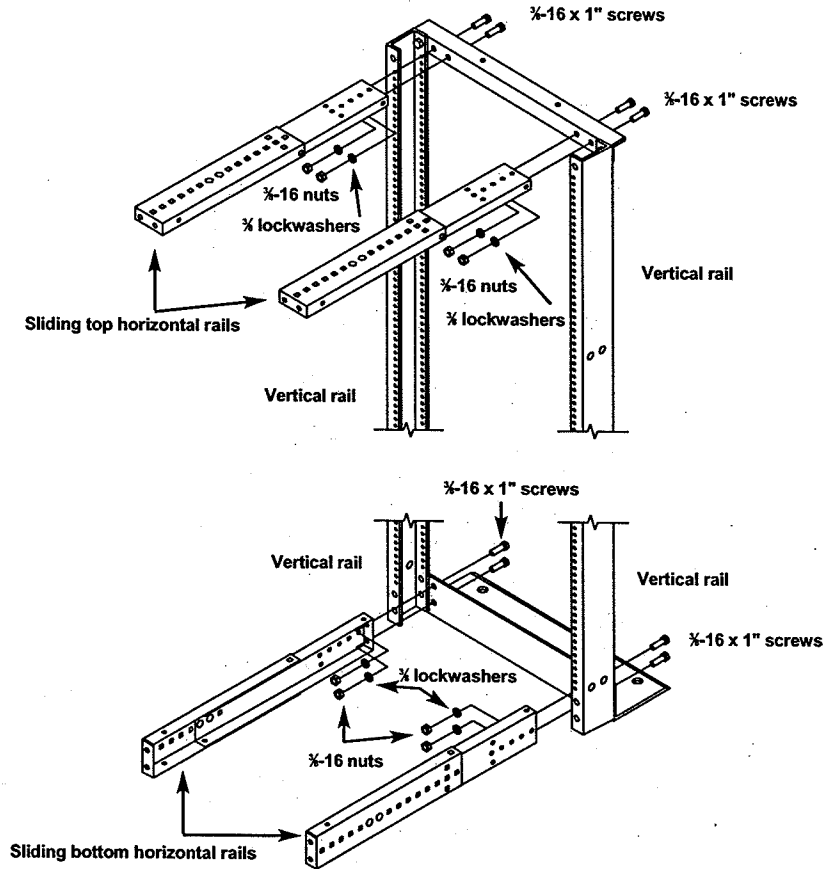

Figure 8. Connecting the top and bottom horizontal rails to the rack's vertical rails (17.75" to 28.5"D [45.1 to 72.4 cm] in one-inch [2.5-cm] increments).
5. Once the sliding top and bottom horizontal rails are assembled, you're ready to connect them to the rack's vertical rails. Use (8) $\frac{3}{16}$ x 1" screws, (8) $\frac{3}{16}$ lockwashers, and (8) $\frac{3}{16}$ nuts. Figures 8 and 9 show the installation for two depth ranges.